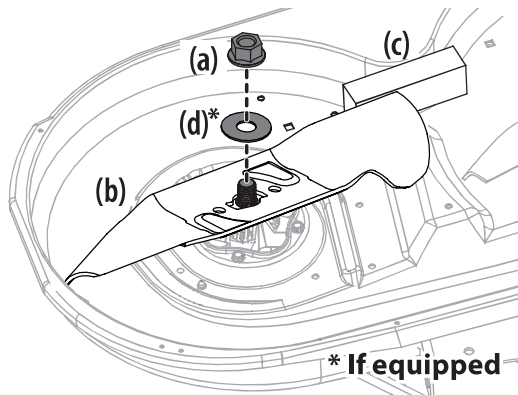

Figure 47
2. Use a 15/16" wrench to hold the hex nut on top of the spindle assembly when loosening the hex nut (a) and washer (d)\* securing the blade (b). A block of wood (c) may be placed between the deck housing and the cutting edge of the blade (b) to help in breaking loose the hex nut (a) and washer (d)\* securing the blade. See Figure 47.
2. When re-installing blades, be sure of the following (see Figure 47 on page 32):